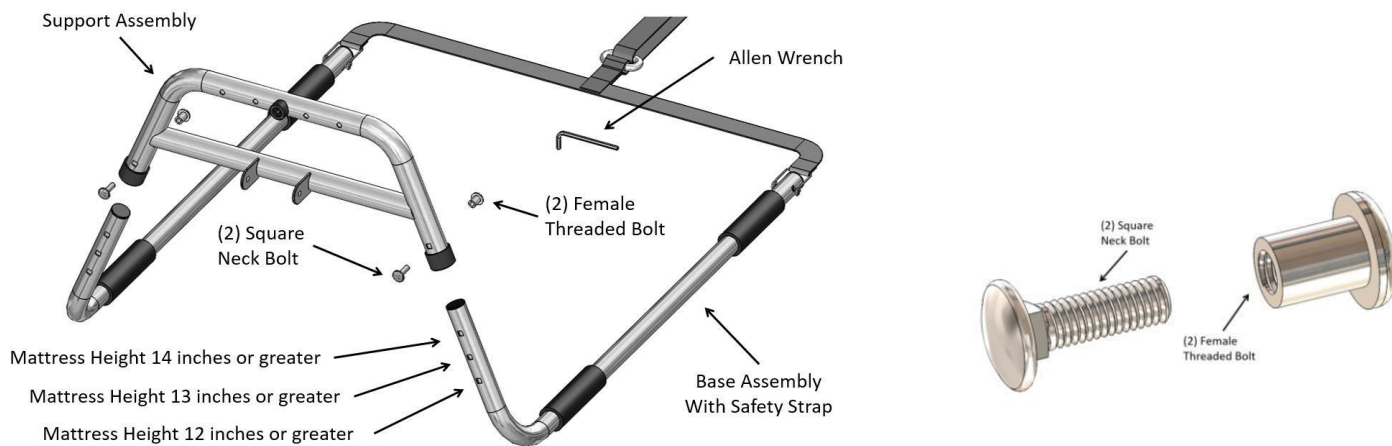
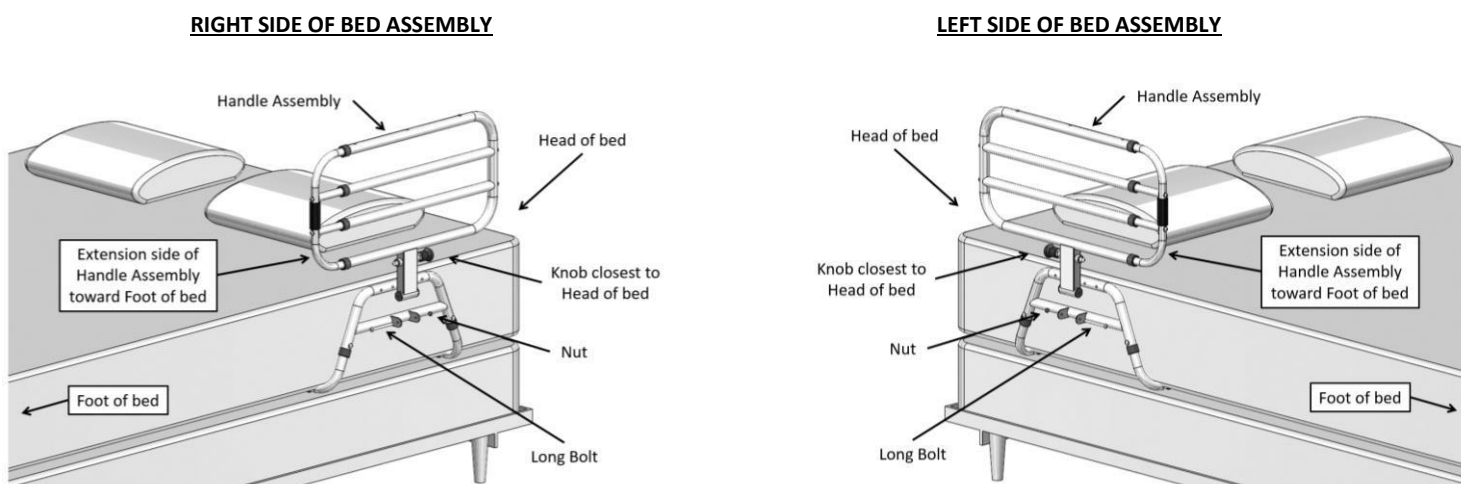

FIGURE 2
FIGURE 3
2. NOTE: Base Assembly tubes have 3 height adjustment holes. Determine the height of the bed mattress and align the appropriate holes in the Base Assembly tubes with the holes in the Support assembly as shown in Figure 2.
Use the Allen Wrench to attach the Support Assembly to the Base Assembly using the Square Neck bolts and Female Threaded Bolts as shown in Figure 2.
3. Determine which side of the bed to install the Bed Rail. Slide the assembled parts from Figure 2, between the mattress and box spring of the bed as shown in Figure 3.
IMPORTANT: Handle Assembly must be positioned so the Knob is closest to the Head of bed and the Extension side of the Handle Assembly is closest to the foot of the bed, as shown in Figure 3.